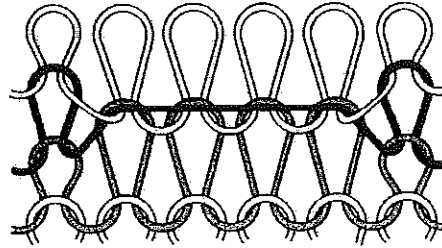

Figure 2
- (j) Draw the yarn path diagram and the square notation of the loop diagram shown in the Figure 2.